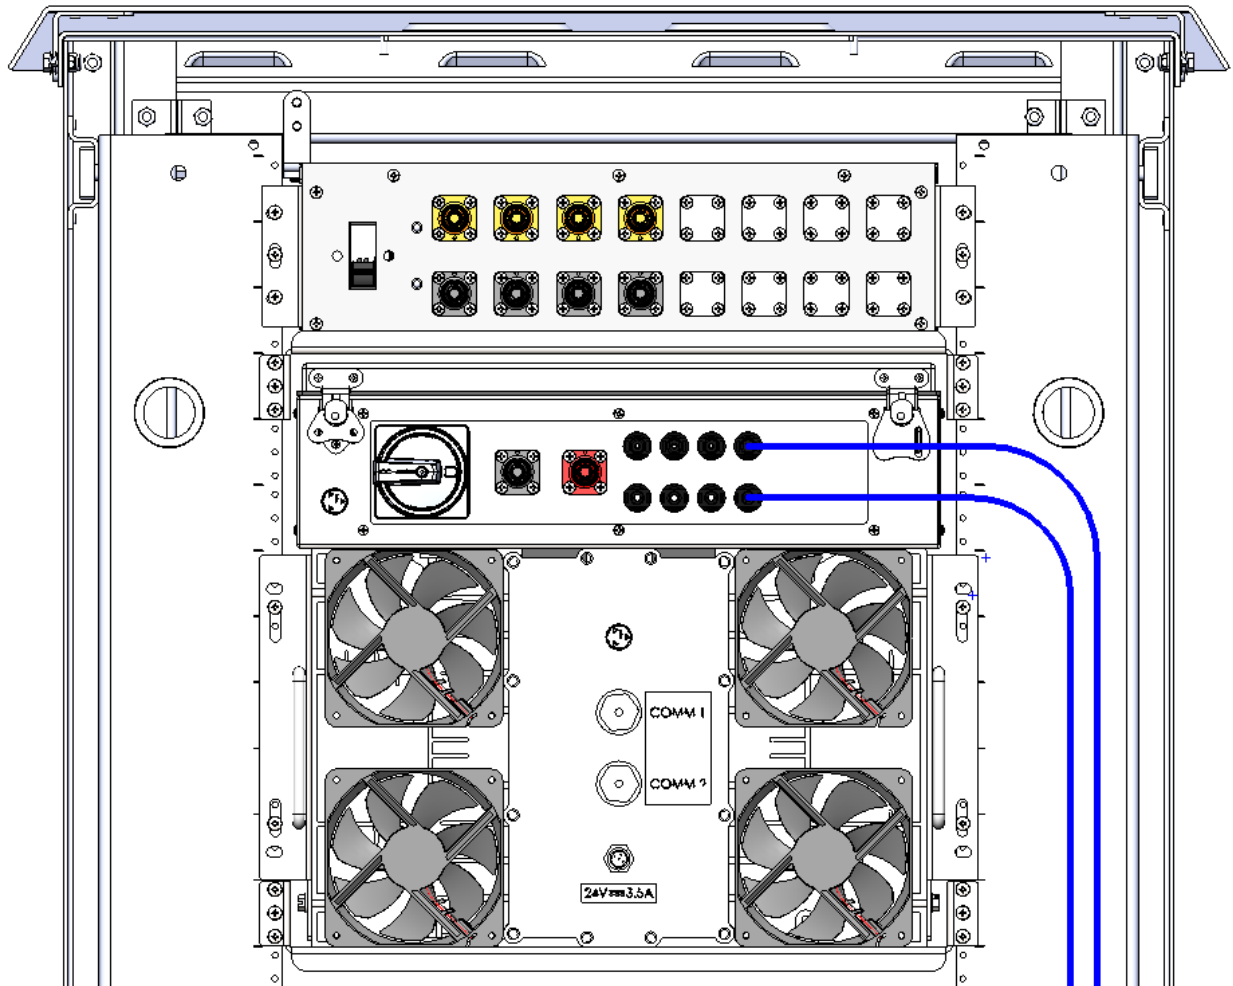

FIGURE 20: PV CABLE ROUTING TO SECONDARY (OUTPUT) AMPHENOL'S ON FEED #1
- Route all PV wires along right-side rack stanchion as shown in Figure 20.